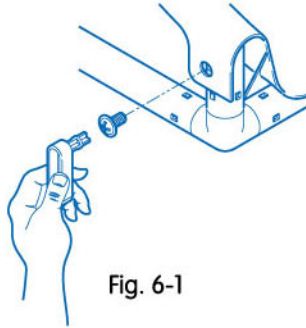

Fig. 6-1
(1) After the model is constructed make sure to fasten all the ends of slide to the tubes with the tube screws and screw driver as Fig. 6-1 shows or double screw driver as Fig. 6-2 shows.